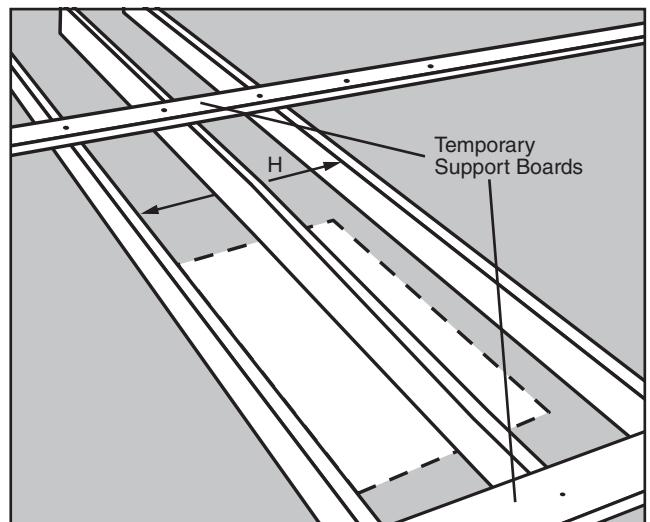

FIGURE 14
- STEP 1.** Measure the header length "H" between the **uncut** joists (See Figure 14).